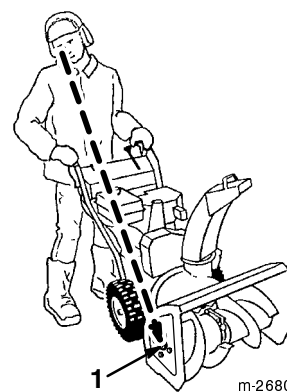

Figure 26
11. Make sure that the auger and impeller do not rotate while the auger/impeller drive control lever is in the *Disengaged* position. Stand in the operating position and look around to the side of the auger housing (Fig. 26). A large screw head on the side of the auger housing rotates whenever the auger and impeller rotate (Fig. 26). **If the auger and impeller rotate while the engine runs and the auger/impeller drive control lever is disengaged, stop the snowthrower immediately.** Refer to *Adjusting the Auger/Impeller Drive Belt* on page 27. If the problem persists, take the snowthrower to an Authorized Service Dealer for service.